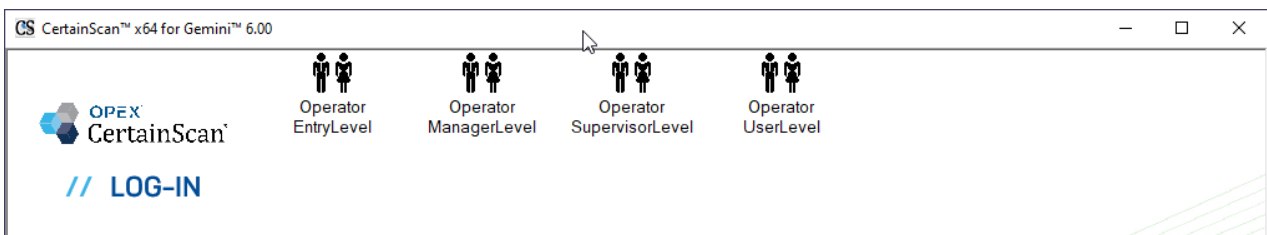

Figure 3-3: CertainScan Main Login
4. The CertainScan Main screen will display for Operator Login (Figure 3-3).